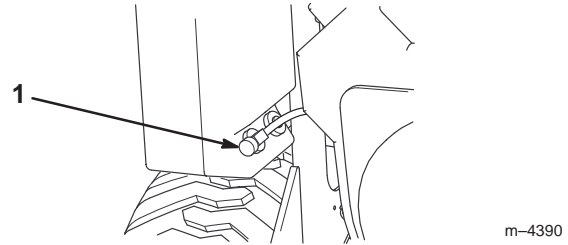

Figure 27
2. Shut off the fuel valve on the bottom of each fuel tank (Fig. 27).
3. Shut off the fuel valve on the bottom of each fuel tank (Fig. 27).